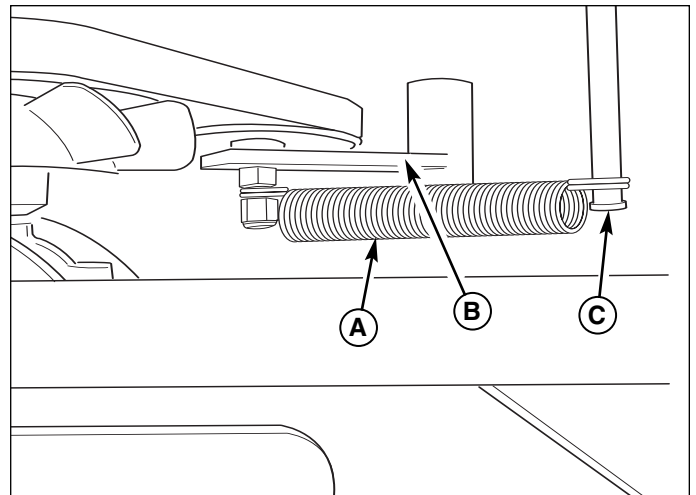

Figure 19. Transaxle Drive Belt
4. With a steel coat hanger, form a small hook. Insert the coat hanger through the opening in the right-hand side of the engine deck. Use the coat hanger to remove the spring (A, Figure 19) from the anchor pin (C).